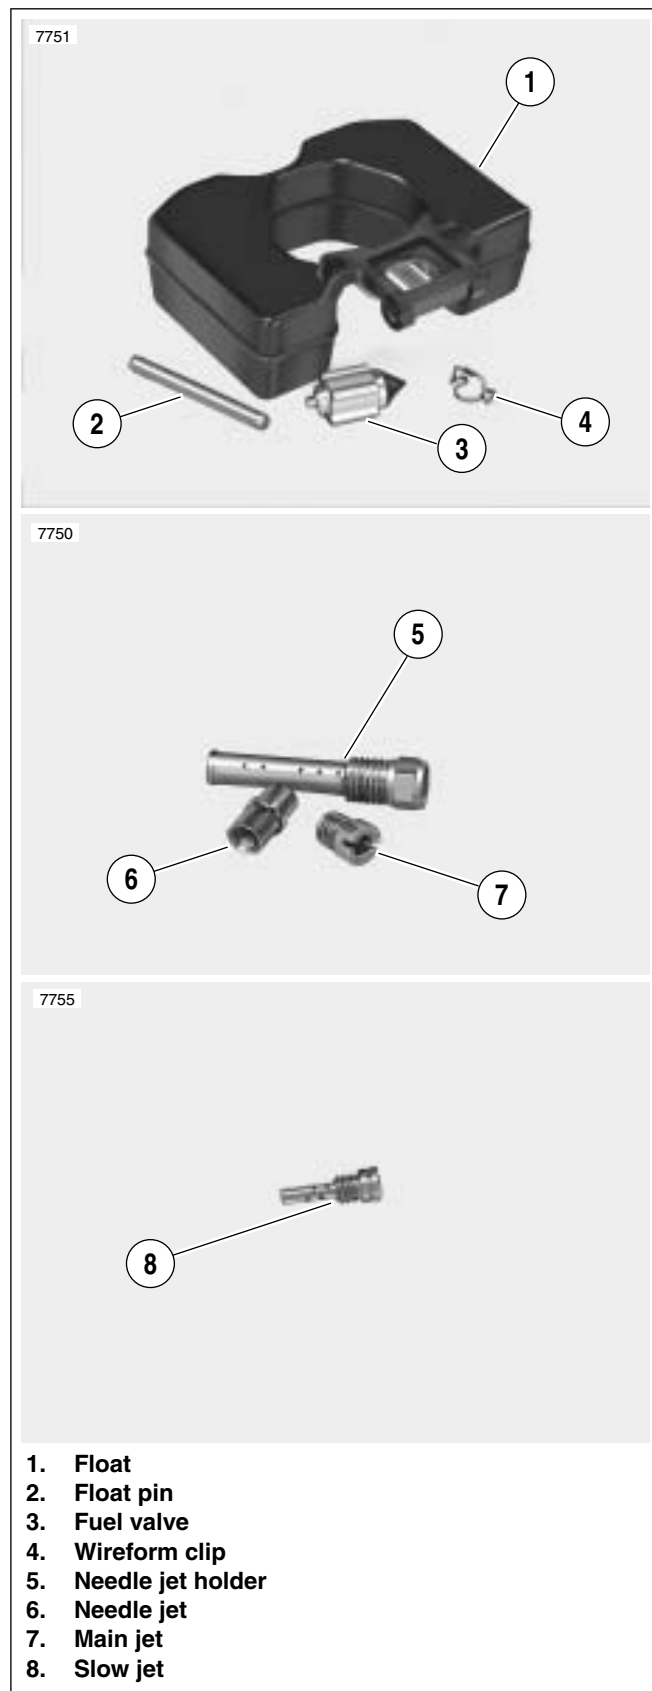

Figure 4-13. Carburetor- Bottom End
3. See Figure 4-13. Remove float (1) and fuel valve (3). Carefully slide clip (4) and fuel valve (3) from tab on float (1). Remove wireform clip (4) from groove in fuel valve (3).
6. See Figure 4-13. Turn carburetor right side up to drop out needle jet, which is loose in main jet bore.
1. See Figure 4-13. Thoroughly clean all loose parts with carburetor cleaner. Blow dry using low pressure compressed air.
- 1. See Figure 4-13. Insert slow jet into slow jet bore. Insert thin bladed flat tip screwdriver into bore, and using slot at top of slow jet, tighten until snug.